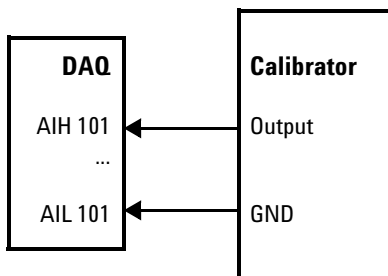

Figure 2-1 The analog input and calibrator connection
- 4 Connect the DAQ device’s analog input ALL channel to the calibrator ground. See Figure 2-1. Note that the analog inputs shown in the figure uses U2351A as an example.
- 2 Connect the DAQ device's analog input AIH channel to calibrator output and connect the analog input AIL channel to calibrator ground. Refer to “Appendix A Connector Pins Configuration” on page 52 for pin assignment. See Figure 2-1 for the hardware connection.